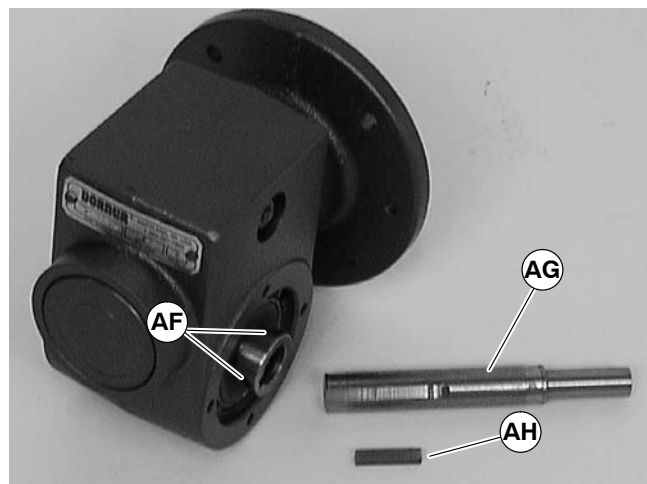

Figure 23
6. Remove two (2) screws (AC) and detach output shaft cover (AD).
7. Remove gear reducer output shaft key (AE).
8. Loosen six (6) set screws (AF of Figure 23). Remove drive shaft (AG) and key (AH).
10. Replace the original shaft components into new gear reducer (see Figure 23).